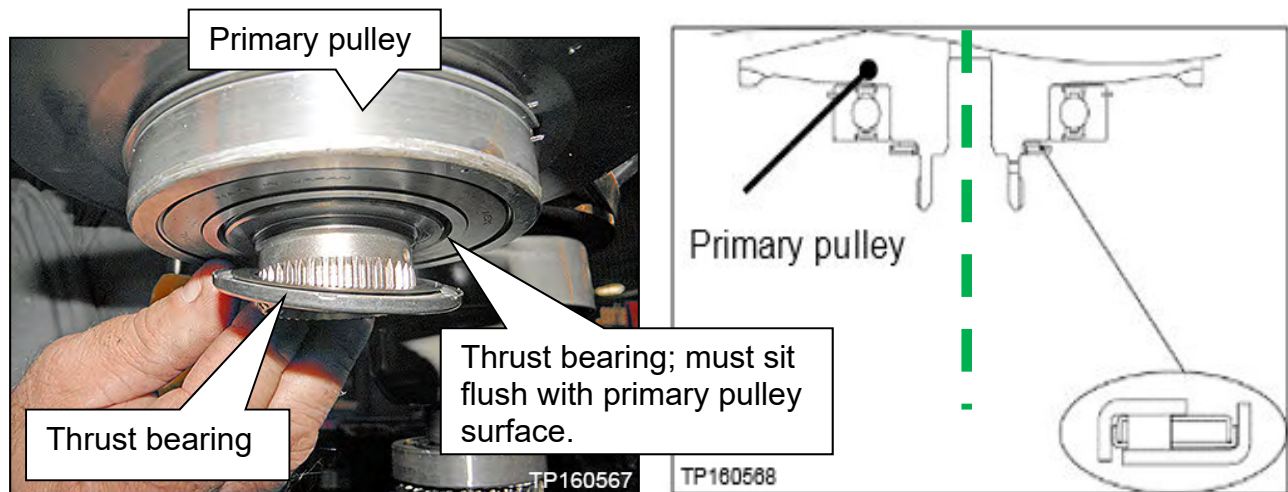

Figure 89
68. Install the original thrust bearing on the primary pulley of the new sub-assembly part (Figure 89).
CAUTION: The thrust bearing has two sides. Reference Figure 89 for bearing orientation.